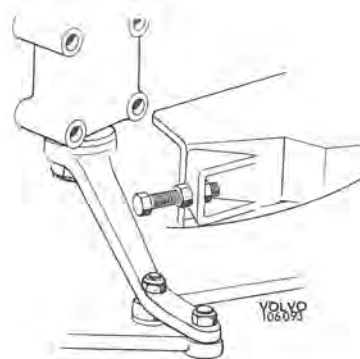

Fig. 6-10. Stop bolt, max. wheel lock
Wheel turning is limited by stop bolts, at the pitman arm (Fig. 6-10) and at the relay arm.
1. Turn the left wheel for a left-hand turn as far as it goes. Check that the lock angle of the wheels is 40—42°. If it is not, then adjust to this value with the stop bolt (Fig. 6-10) at the pitman arm.